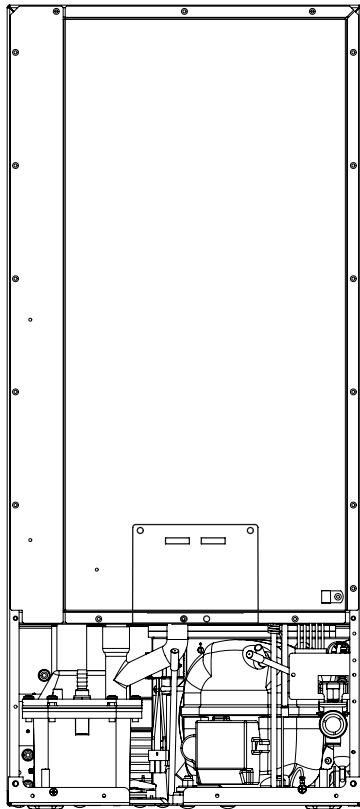

Figure 31
7. Disconnect the water valve's outlet water line to the reservoir and drain the remaining water left in the water line trap area. (See Figure 31 and 31a).
8. Reconnect the water valve outlet water line. (See Figure 31 and 31a).